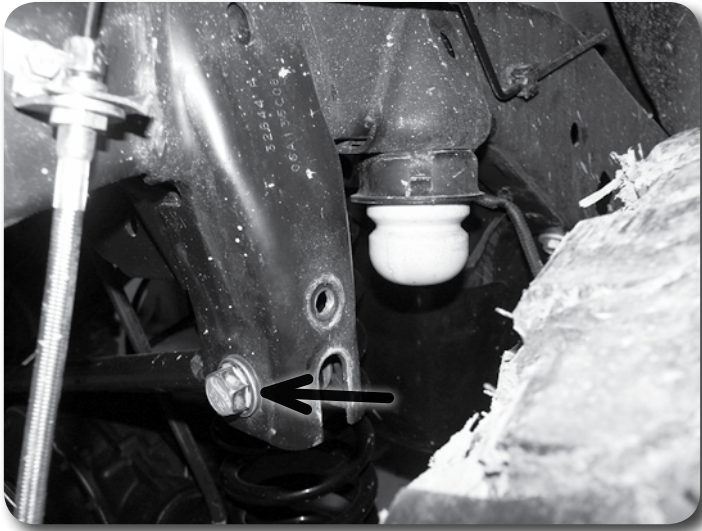

Figure 5
2. Disconnect the rear track bar from the frame (passenger's side). Save hardware. (Figure 5)